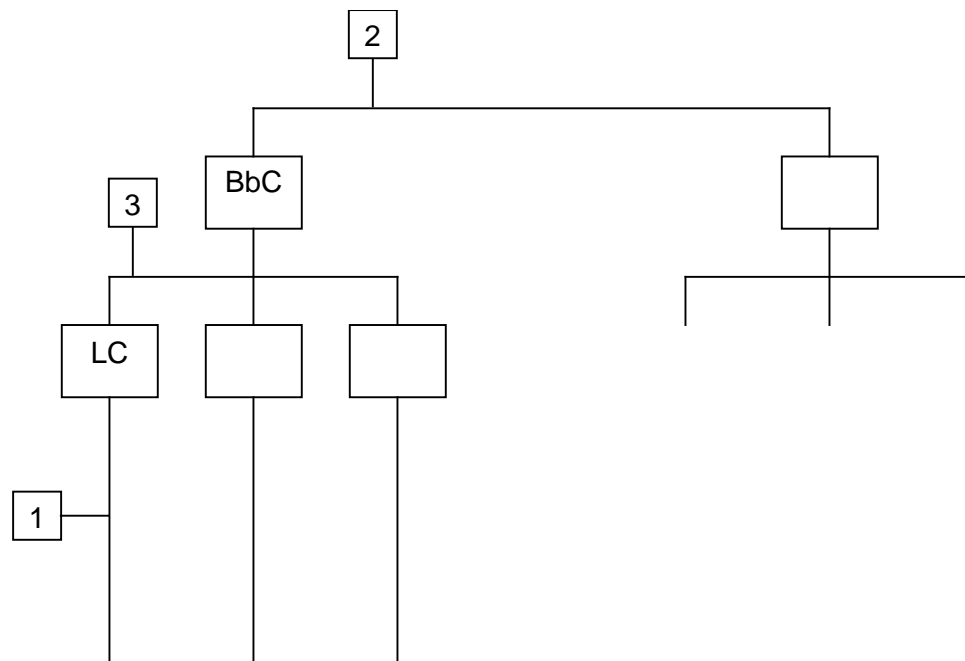

Figure 1 - Three cases of an inconsistent topology
- Figure 1 visualises three cases of a devices having an inconsistent Individual Address.